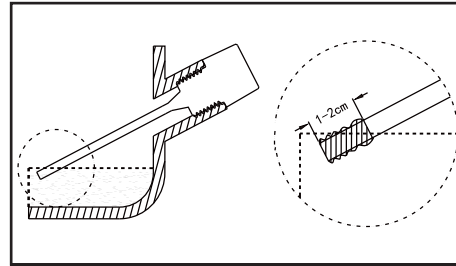

Fig. 2
2. Wipe dipstick clean and re-seat in hole; do not re-thread. Remove dipstick again and check the oil level. The oil level should fall within the level indicator area on the dipstick. If level is low, add engine oil until the fluid level rises to the upper portion of the level indicator area on the dipstick (Fig.2). Replace and secure the oil cap/dipstick and return the generator to the stand position.